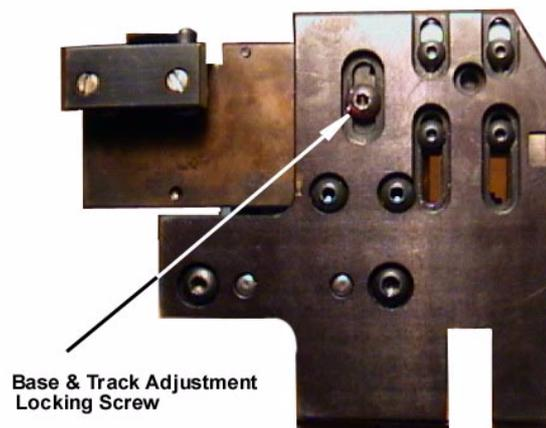

FIG.3
- F. To set terminator base and track in proper relation to anvil and cut-off plunger, loosen base and track adjustment locking screw underneath base plate and turn socket head cap screw in front of applicator. Clockwise turning will move the terminator base and track to the rear and counter-clock-wise to the front of the applicator (see FIG.3). After adjustment tighten the track adjustment locking screw.